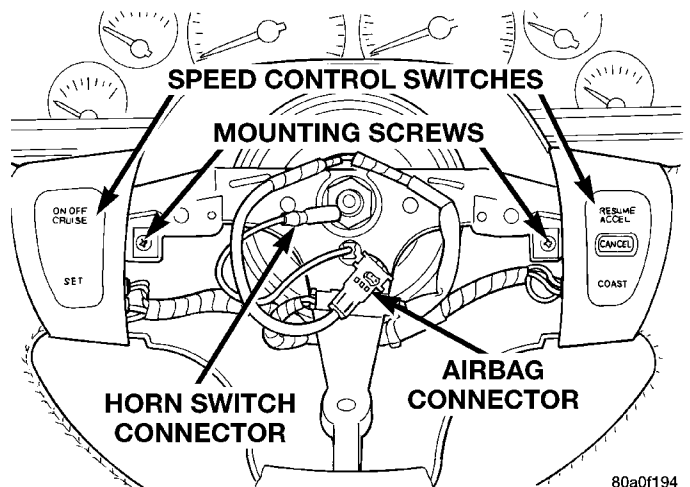

Fig. 6 Vehicle Speed Control Switches Remove/Install
(3) Pull the airbag module away from the steering wheel far enough to access the wire harness connectors on the back of the airbag module.
(4) Unplug the airbag module and horn switch wire harness connectors from the back of the airbag module.
(5) Remove the driver side airbag module from the vehicle.
(6) Remove the screws that secure the vehicle speed control switches to the steering wheel, and lower the switches from the steering wheel spokes (Fig. 6).